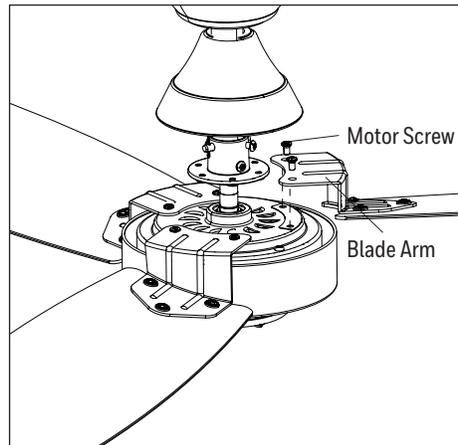

Figure 5.5
5. Install the blade arm to the top side of the motor with motor screws previously removed (Step 3, page 5). Tighten with Phillips screwdriver (not included). Repeat for each blade arm (Figure 5.5).